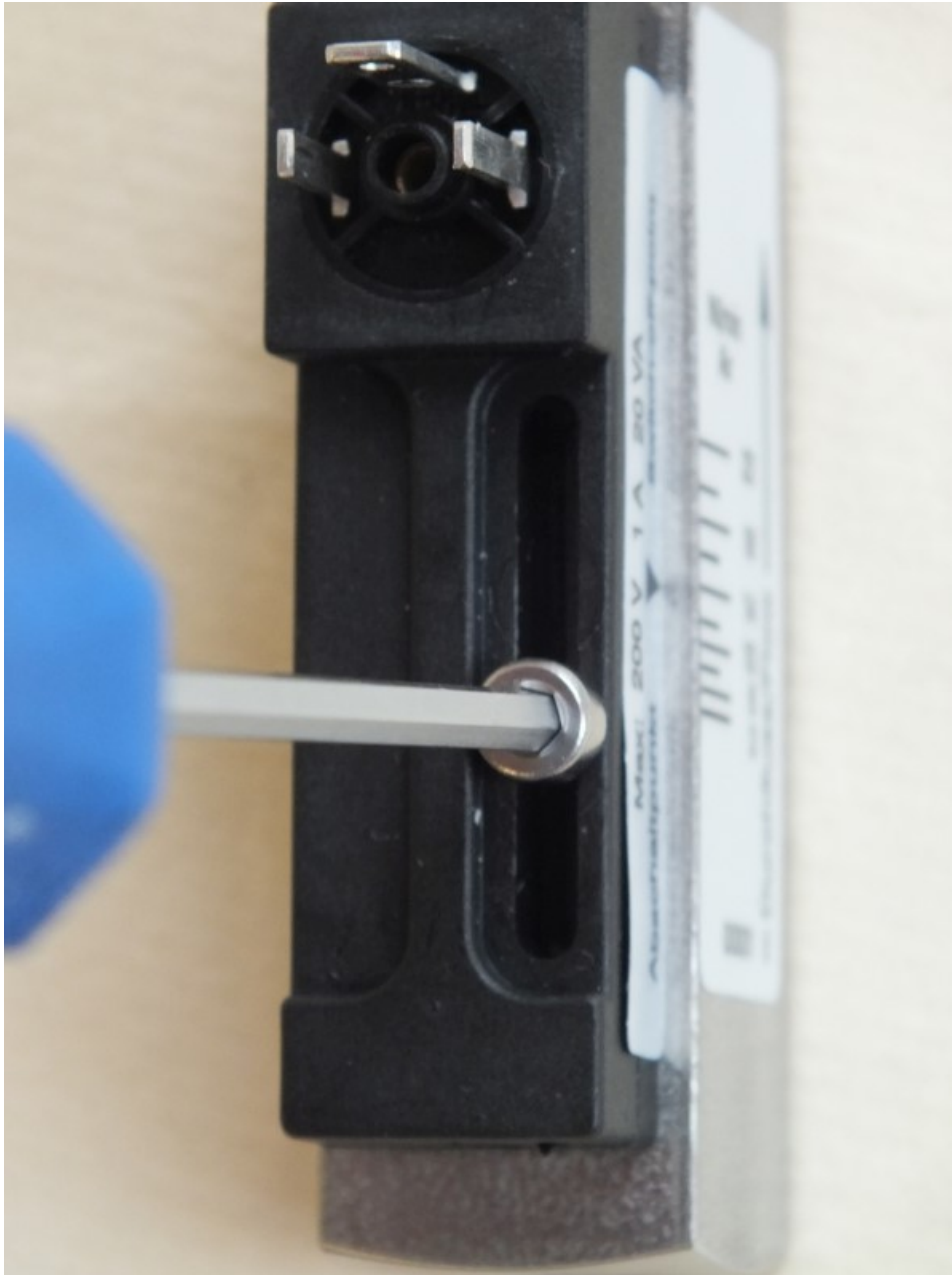

Fig. 31: Loosen set screw
1. ➤ Loosen the set screw of the switch contact (*Fig. 31*) using a Hex screwdriver.
3. ➤ Re-tighten the set screw of the switch contact (*Fig. 31*) using a Hex screwdriver. When doing so, observe the correct tightening torque of the screws.